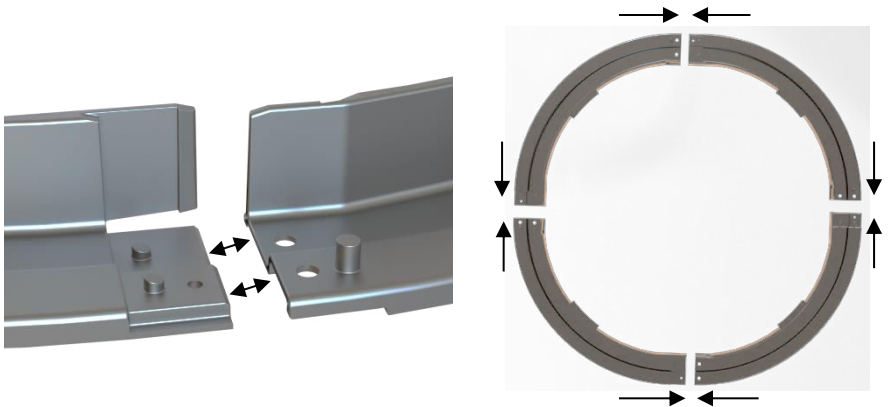

Figure 2: Assembly of connector flange
- 1.) Assemble connector flange by interlocking the four sections as shown in Fig 2.